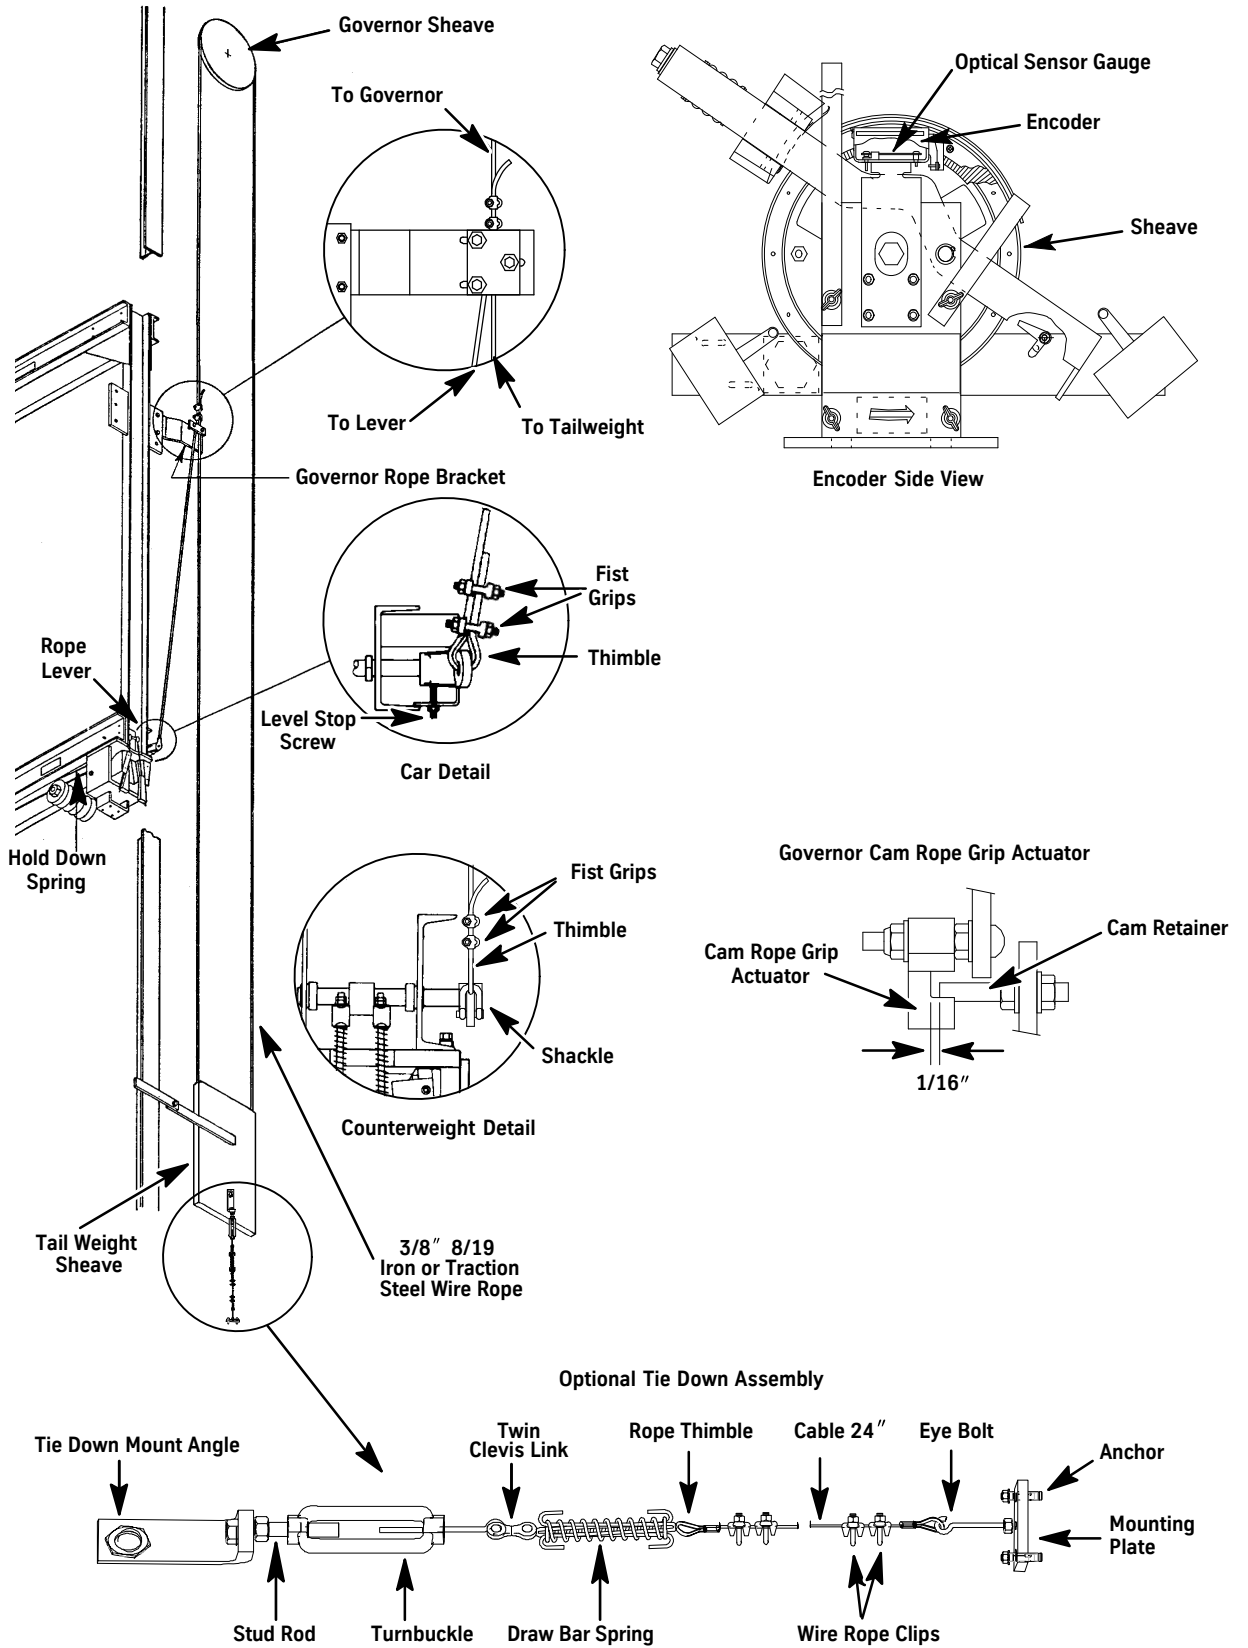

Figure 2 - 12" Governor (5501AE) and Safety System
9. On the car side, drop a plumb line from the center of the governor sheave. Align the governor rope position to the governor rope bracket and the tailweight sheave. If the plumb bob does not align properly, shift the governor until it does. See Figure 2 on page 11.